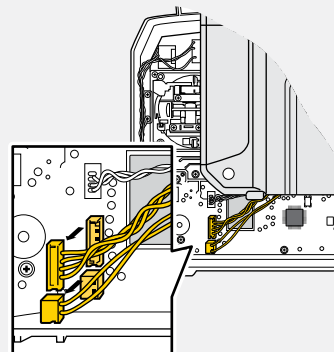

Fig. 13
3. Open the housing. Mind the two cables that connect front and back! Carefully unplug the cables from the PCBA (see [\[Fig. 13\]](#)).